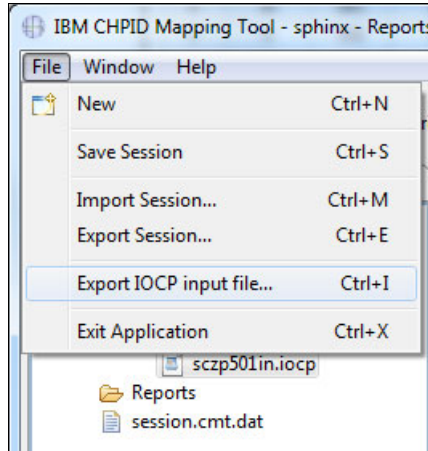

Figure 7-59 CMT - Export IOCP input file
1. Select **File** → **Export IOCP input file** (Figure 7-59).